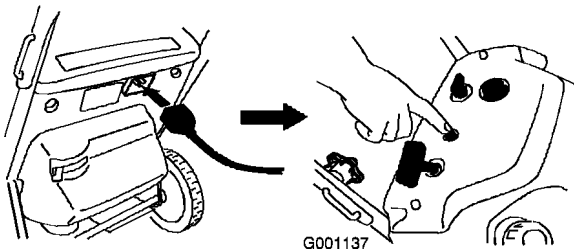
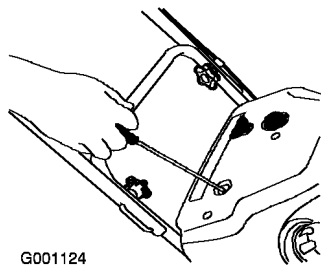

Figure 16
Figure 17
4. Start the engine using either the electric-start button (Figure 16) or the recoil starter (Figure 17).